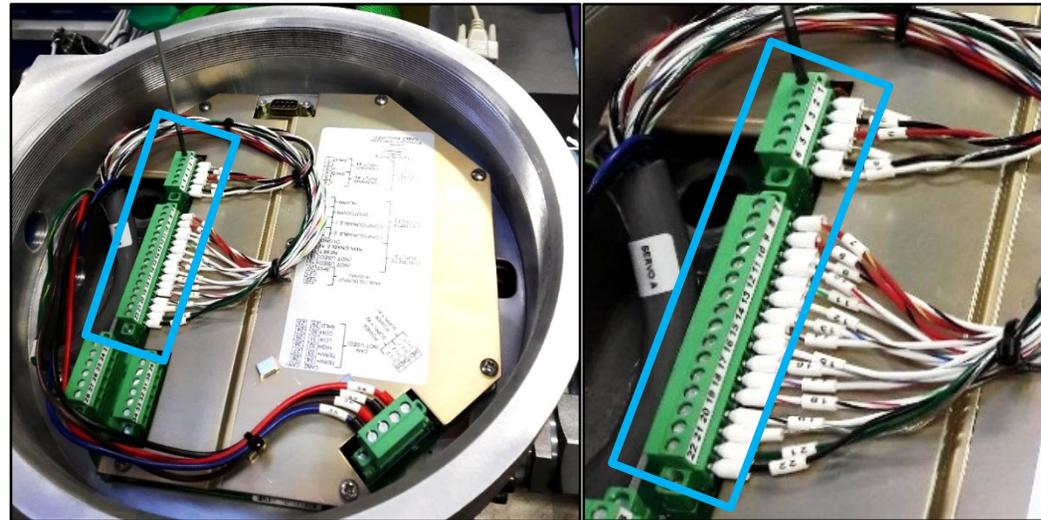

Figure 2-54. Signals Connector Placement Inside VariStroke
27. Install signal cables to VariStroke terminals #1 to 22. Torque to 6.2 ± 0.9 LBIN (0.7 ± 0.1 Nm) (use slotted screwdriver; 3.5×0.6 mm tip size) (Figure 2-54).